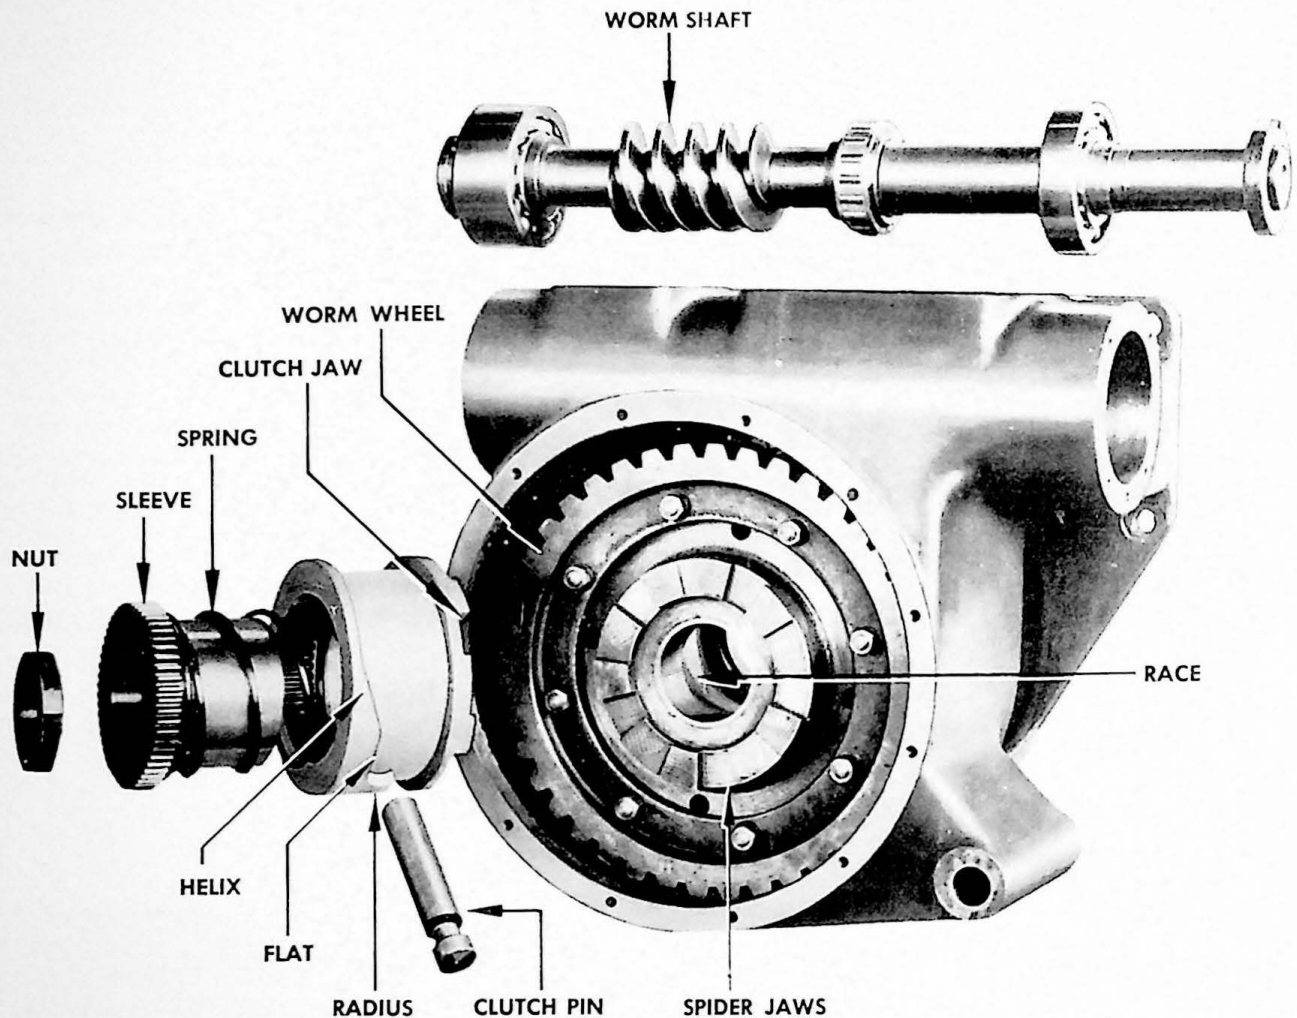

Fig. 28. Multiple Jaw Clutch
The clutch, Fig. 28 which has multiple jaws on its inside face, slides on the sleeve and is splined to it. The sleeve is keyed and forced on the tapered end of the drive shaft and is retained by a nut. The clutch is constantly pushed toward the spider by a spring between it and the sleeve. In the idle position the clutch is held away from the spider by the clutch pin. When the clutch pin is withdrawn, by depressing the foot treadle, the spring forces the clutch jaws into mesh with the revolving jaws on the spider and causes the drive shaft to turn. As long as the treadle is held down, the drive shaft will continue to turn and the shear ram will make continuous up and down strokes. When the treadle is released, the clutch pin moves in, and at the proper time, engages a helix on the clutch, pulling it out of engagement with the spider.
6. The helix on the clutch and the end of the clutch pin may be rounded causing the clutch pin to jump out. See Figure 28.